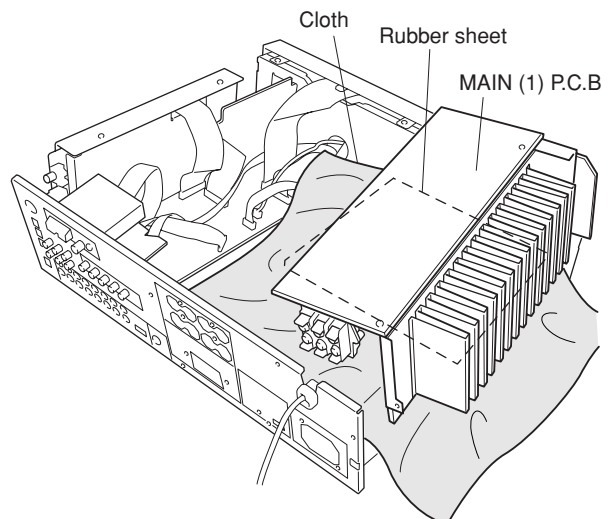

Fig. 4
- To check the MAIN (1) P.C.B., spread a rubber sheet and a cloth over it. Then place the MAIN (1) P.C.B. upside down on the cloth for checking it. (Fig. 4)